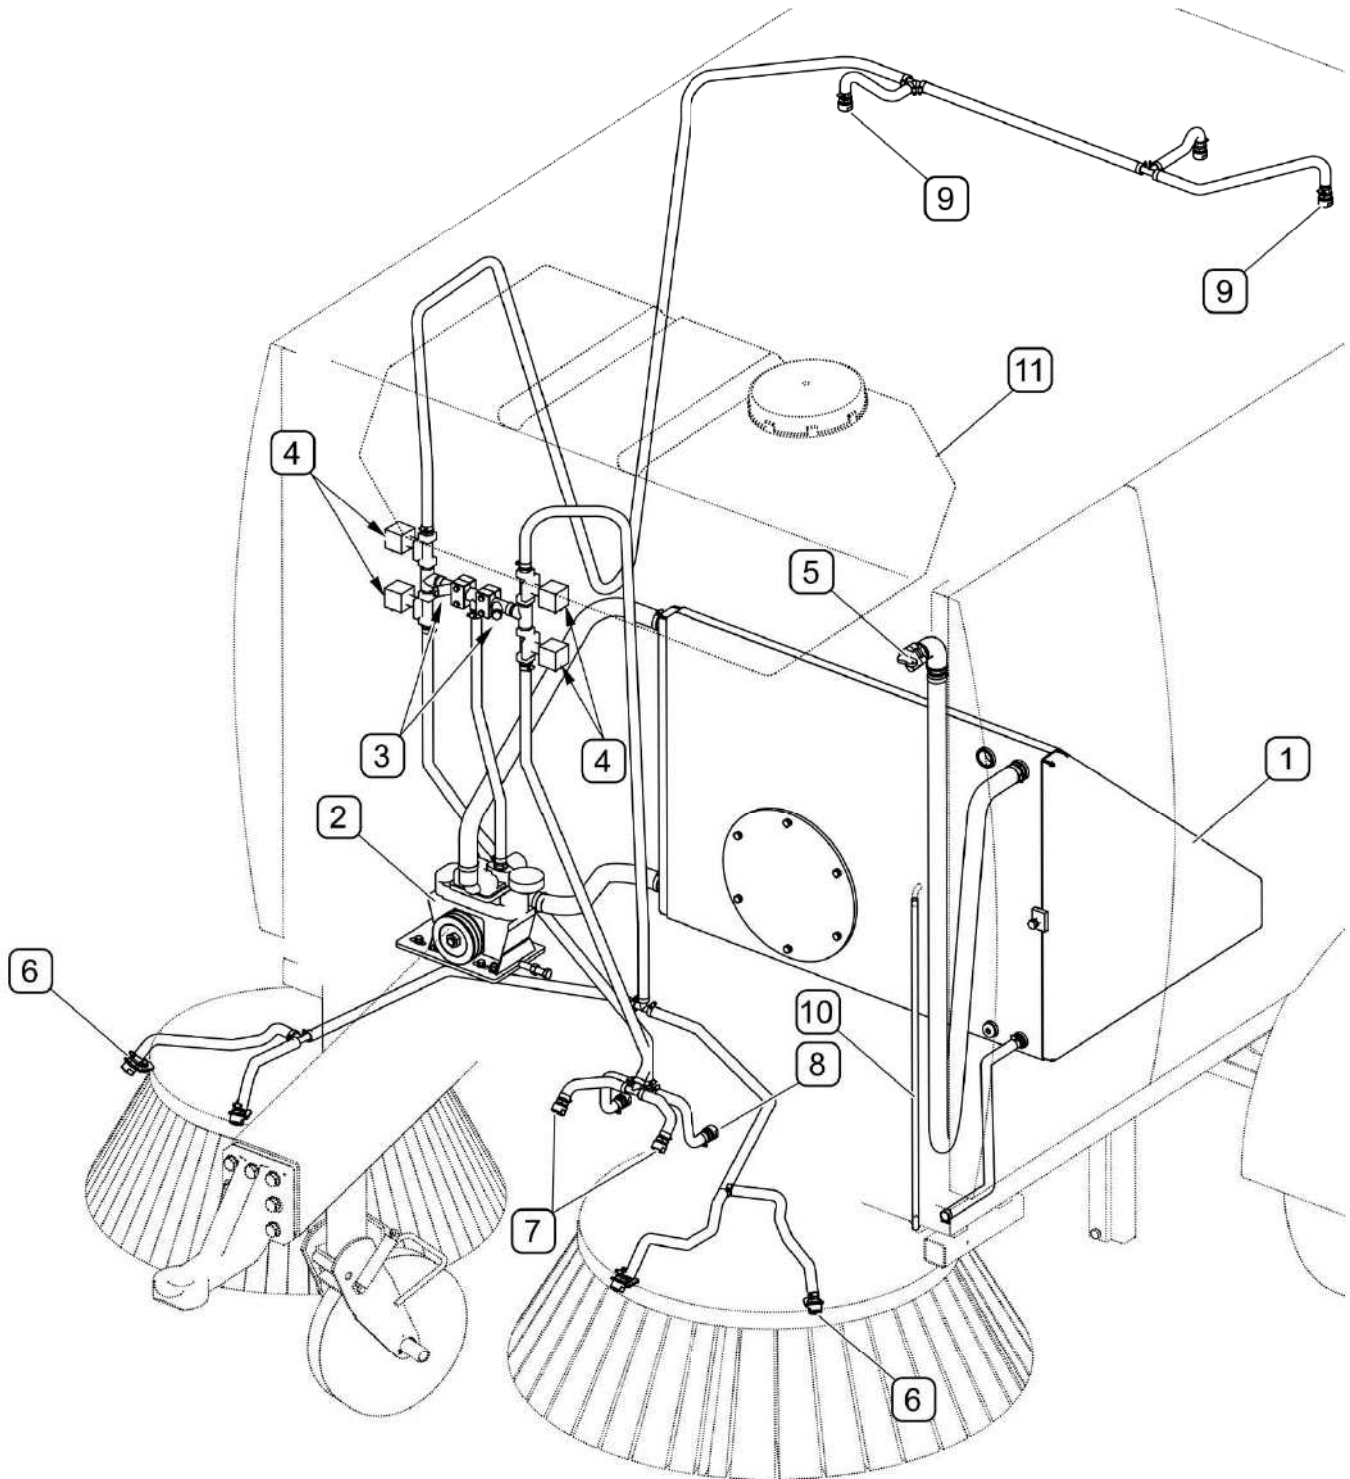

FIG. 3.8 Sprinkler system design
(1) - water tank; (2) - water pump; (3) - filters; (4) - solenoid valve; (5) - filler plug; (6) - slotted nozzles of the sweep system; (7) - slotted nozzles of the suction system; (8) - conical nozzles of the suction system; (9) - conical nozzles of the tank; (10) - water level indicator; (11) - additional water tank (optional)
Water tank (1) and water pump (2) are the main elements of the sprinkler system (FIG. 3.8). Sprinkling nozzles (6),(7),(8) located next to brushes, suction nozzle and inside the waste tank, effectively prevent dusting during machine operation. This system is operated from the control panel by activating suitable solenoid valves (4).